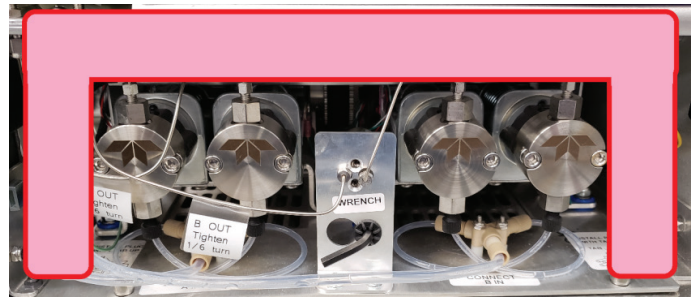

Figure 5: Wiring and tubing locations highlighted
- Gently pull the pump assembly from the instrument. Make sure not to damage any tubing or wiring surrounding the pump assembly when slowly pulling it out. (Figure 5)
2. Gently slide the replacement pump assembly into the instrument. Make sure not to damage any tubing or wiring surrounding the pump assembly as it is being slid into place. (Figure 5/6)